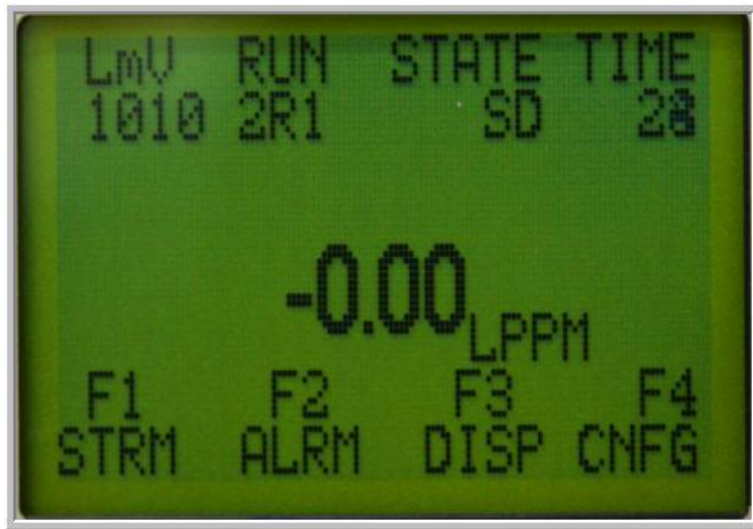

Figure 4-2: The LCD Display (Main Page)
The main page of the LCD (Figure 4-2) contains three discrete regions:
F1	On the main page (Figure 4-2), the F1 key accesses the Stream (STRM) menu (Section 4.5) and is used to select the stream of interest. On other screens, the F1 key is used as a page-up (PGUP) function key to scroll through multiple menu screens if required or is used to select a sub-menu.
F2	On the main page (Figure 4-2); the F2 key accesses the Analyzer Alarm (ALRM) list (Section 4.6). On other screens, the F2 key is used as an up (UP) function key to scroll through multiple menu screens if required or is used to select a sub-menu.
F4	On the main page (Figure 4-2); the F4 key accesses the Configuration (CNFG) menu. On other screens, the F4 key is used as a page down (PGDN) function key to scroll through multiple menu screens if required or is used to select a sub-menu.
EXIT	Exits any menu screen and returns to the main display screen (Figure 4-2).